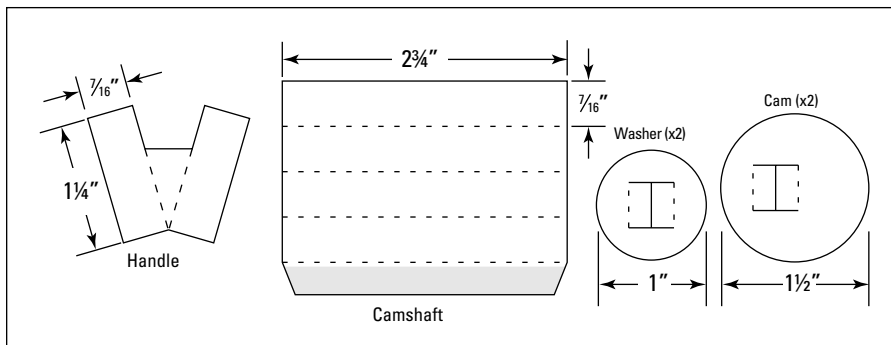

Figure 10-4:
5. Copy the mechanism parts from the template in Figure 10-4 onto white card, score along the dashed lines, and cut out the pieces.